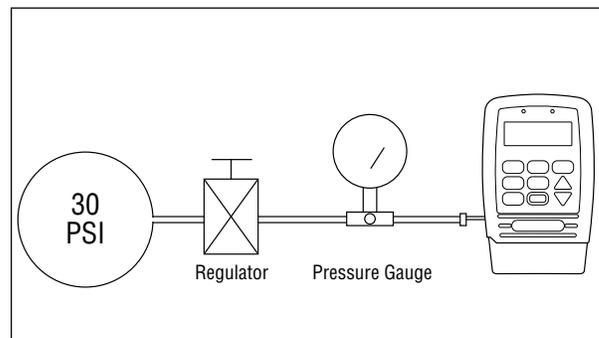

Figure 9. Occlusion test set-up.
- Assemble the apparatus as shown in Figure 9.